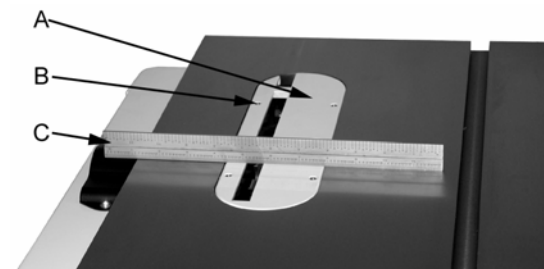

Figure 36
1. Adjust table insert (A, Fig. 36) flush with table by turning four leveling screws (B, Fig. 36).
2. Use a straight edge (C, Fig. 36) to make sure the insert is flush with the table.